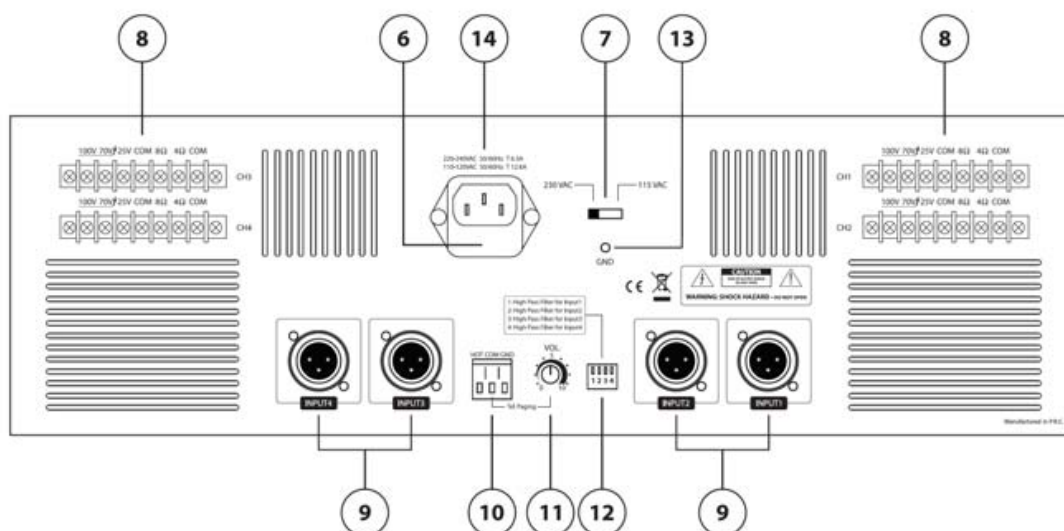

fig.2
To supply the unit, connect on position 14 **fig.2**, the cable contained in the package
Connect telephone output terminal to screw terminal TEL INPUT (fig.2 ref.10). Use the most suitable connection accordingly to the audio telephone signal characteristics. (make reference to the telephone manual user).
In order to access to the speakers terminal screws i (fig.2 ref. 10) remove the protection cover :unscrew the fixing screws.
In order to have a constant impedance line ($8/4\Omega$) connect the two terminals respectively to COM e 8 o 4Ω (fig.2 ref. 8).
In order to have a line with a constant voltage (50 / 70 / 100 V) connect 2 terminals respectively to COM and to the tension indicated and of your choice (**fig.2** ref. 10).